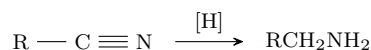

Figure 3.20: Reduction of nitriles.
- Once we have the nitrile, we can reduce it as in Figure 3.20.